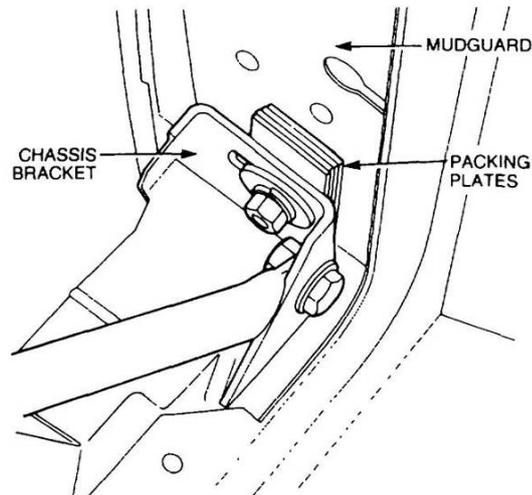

Figure 152 Removal of the Left Mudguard
- h. Remove the nut, washers and bolt securing the mudguard to the chassis bracket and remove the packing plates if fitted (Figure 152).
- g. Install the packing plates (if required) between the mudguard and chassis bracket (Figure 152) and fit the bolt, washers and nut.